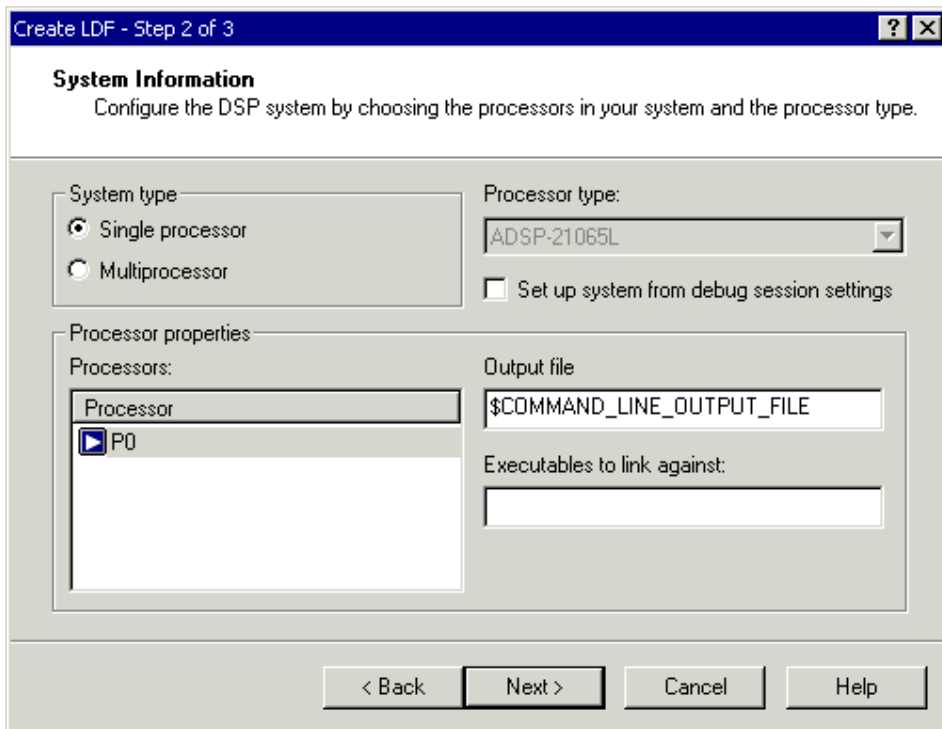

Figure 2-16. Create LDF – Step 2 of 3 Page
3. Accept the values selected for your project and click **Next** to display the **Create LDF – Step 2 of 3** page, shown in Figure 2-16 on page 2-23.